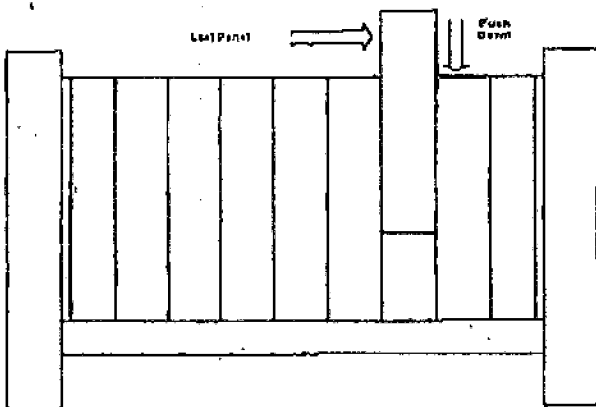

FIG. 10
Step 4. Starting on the end, insert the first picket into the bottom rail and the U-channel (if you have cut the first picket, the cut end should go into the u-channel). Proceeding down the panel, insert pickets into the bottom rail, interlocking the tongues and grooves as you go. When you get toward the end of the panel, begin working from the opposite post back toward center (keep tongues and grooves oriented in the same direction), so that the last picket to be inserted is 3 to 4 pickets in from the posts. Slide the last picket in from the top (fig. 10).